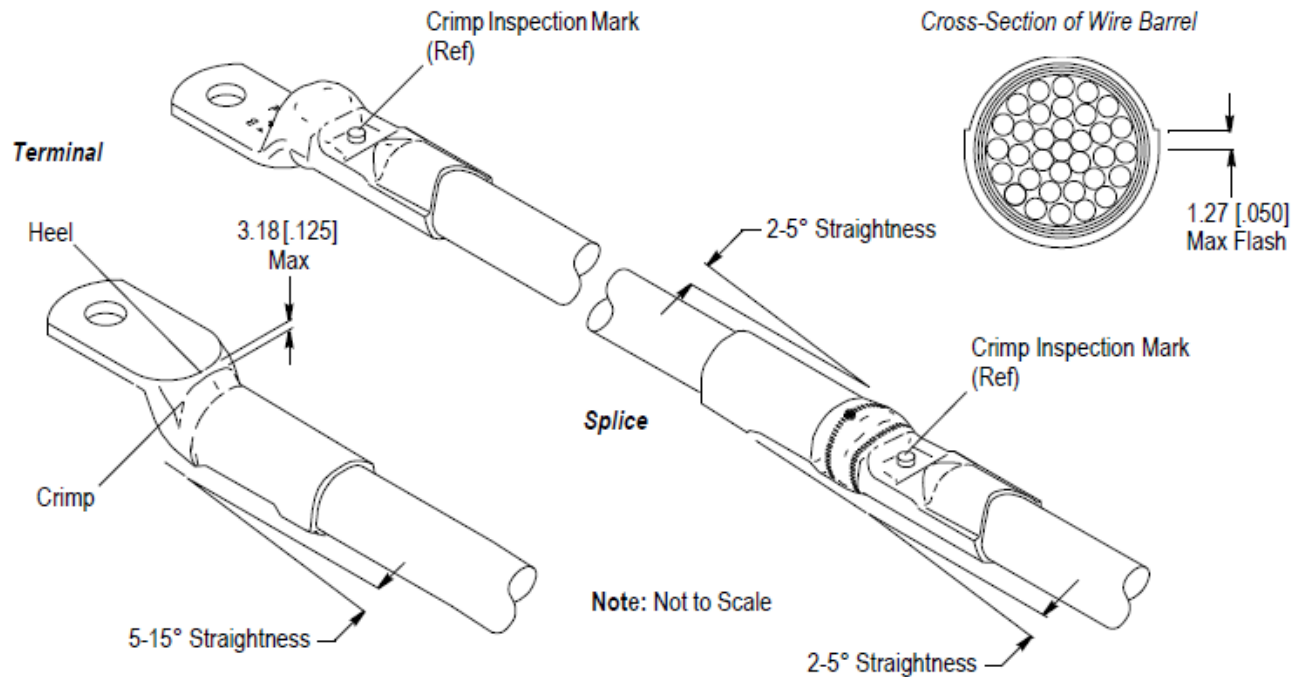

Figure 5
The crimp inspection mark (created by the die assembly) on the terminal or splice can be used as a visual indicator of an acceptable termination, but it does not indicate that the crimp is not acceptable. If the crimp inspection mark is centered in the crimp area and is evenly and distinctly formed, the crimp is considered properly applied; however, if it is not, and (1) the proper terminal or splice and die combination according to the wire size was used (2) the dies fully bottom during the crimping cycle, and (3) the die assembly conforms to a gage inspection, the crimp can be considered acceptable. Refer to Figure 5.
For terminals, the distance between the heel of the terminal and the crimp must be no more than the dimension given in Figure 5.
The crimped terminal or splice must be within the degree of straightness provided in Figure 5.
Wire barrel flash that results from the crimping process must not exceed the limits provided in Figure 5.